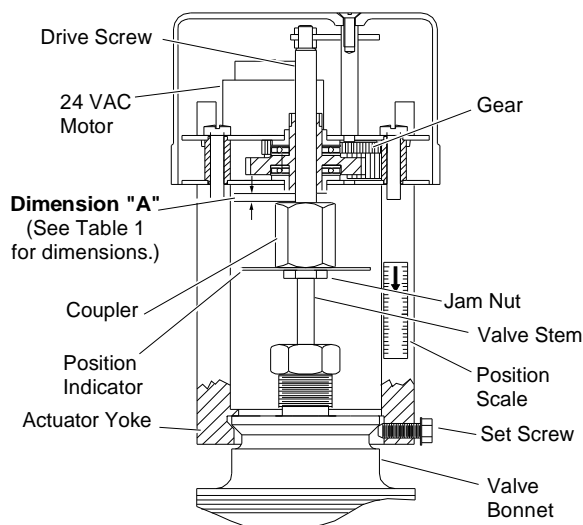

Figure 4: Actuator Components as Mounted on VBC Series Cage Trim Valve
Note: No additional parts are required for mounting to VBC Series valves. (See Figure 4.)
3. Manually turn the gearing between the metal plates to achieve **Dimension "A"** as shown in Figure 4. (Use Table 1 to set Dimension A.)